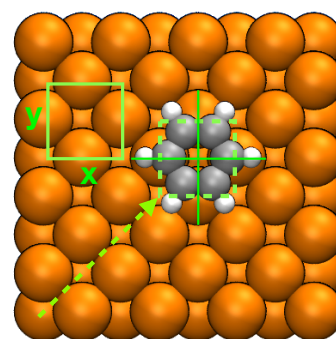

Figure 1: Benzene/Cu(100).
This demo involves a restart with a (confidential) DFT dataset. The adsorption of benzene on Cu(100) was simulated with FHI-aims, as illustrated in Fig. 1. The input file features a list of datapoints in the form  $(x,y,z,E_{ads})$ . You can compare your BOSS results with the enclosed output files in the `solutions` directory. The `xyz` file illustrates the structures corresponding to data acquisitions.